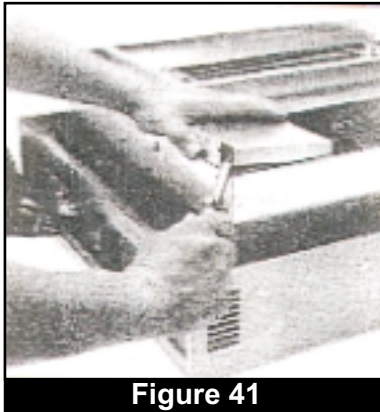

Figure 41
3. Pry off fan blower housing cover (with a flathead screwdriver, if necessary). Without disconnecting wires, set cover on a clean work area. (Fig. 41)